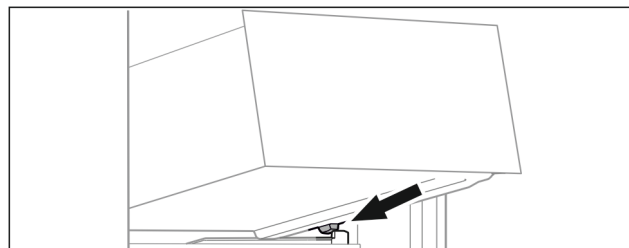

Fig. 15
- ▶ Place drawer on the molded ribs behind the stoppers with the drawer tilted up at the front Fig. 15 (1).